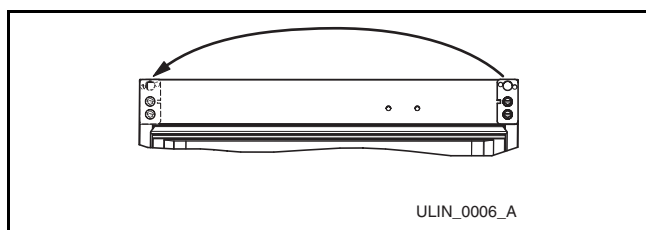

Figure 38
8. With bottom of door facing up, remove pivot plate (two screws), flip over, and remount on opposite side of door (**Figure 38**). **Be sure notch in plate faces center.**